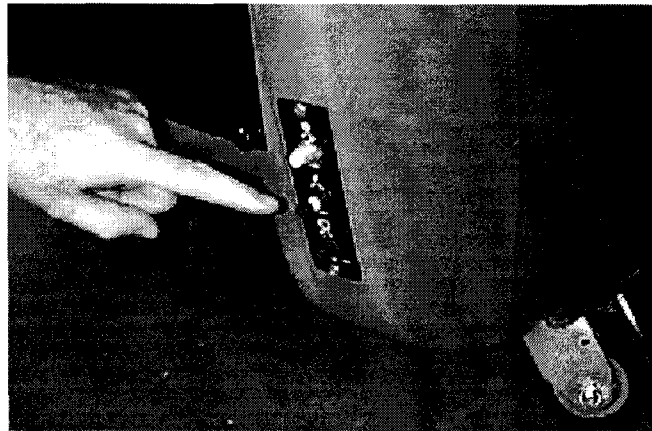

FIG. 28.
1. Pull out drive motor circuit breaker button to shut off power to driver motor. (Figure 28)